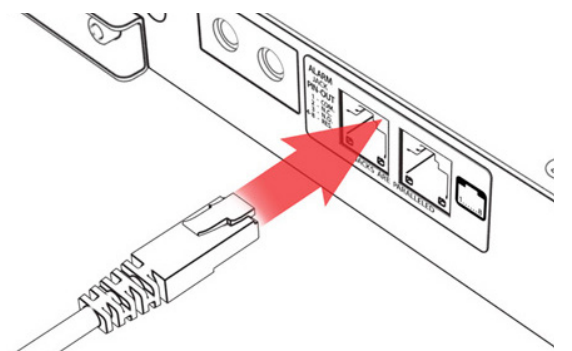

Figure 15. Alarm connections
Step 1. Plug in a UTP cable with a TIA/EIA T568B termination into the alarm jack (see Figure 15). Refer to Table 4 for alarm pinout information.